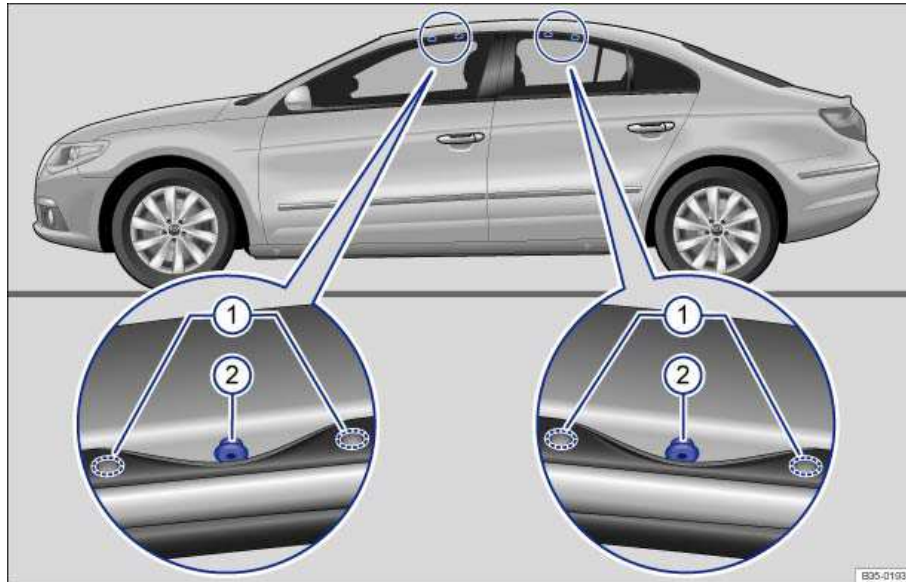

Fig. 102 Under the rubber seal above the front and rear doors: Attachment points for the base carrier.
There are two markings on the rubber seal above each door of the vehicle ⇒ fig. 102 (1).